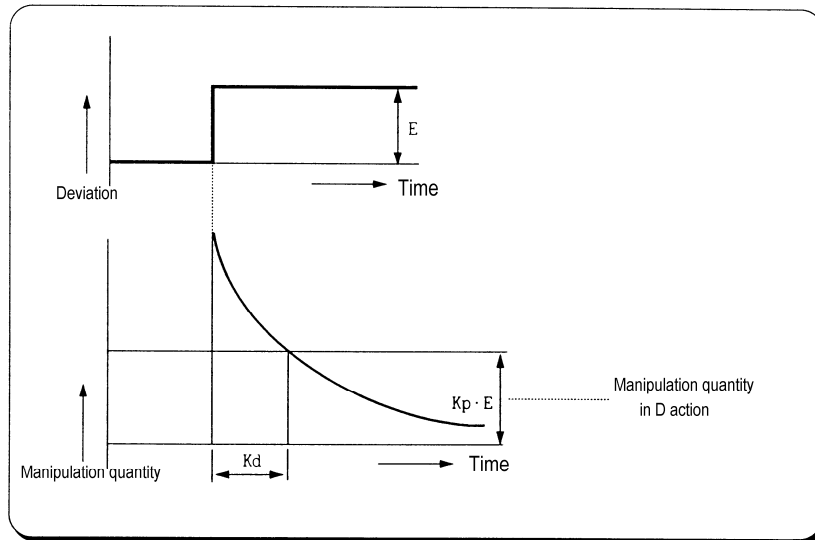

Fig. 7.7 PID action with a constant deviation
- ① PID action controls the control object with the manipulation quantity produced by (P+I+D) action.
- ② PID action when a given deviation has occurred is shown as the following Fig. 7.7.